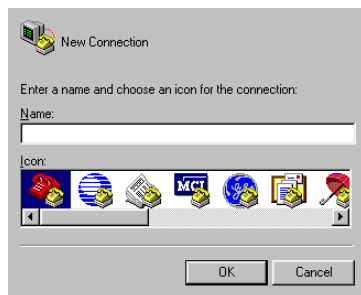

Figure 15: Connection Description dialog box
4. Choose **Start > Programs > Accessories > Communications > HyperTerminal**. The Connection Description dialog box displays, as shown in Figure 15.